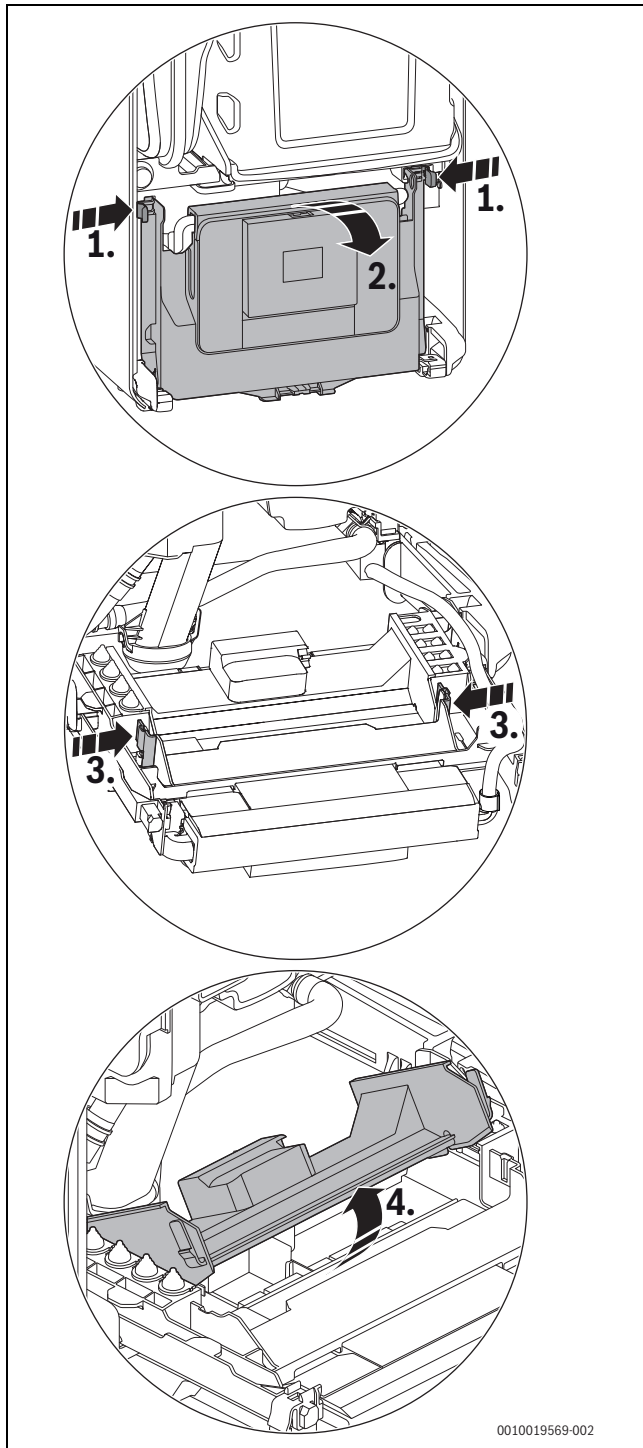

Fig. 59 Opening the cover
If the power cable is of insufficient length and is to be replaced, access the connection terminal (→ Fig. 59)
- ▶ Flip down the control appliance (→ Fig. 59)